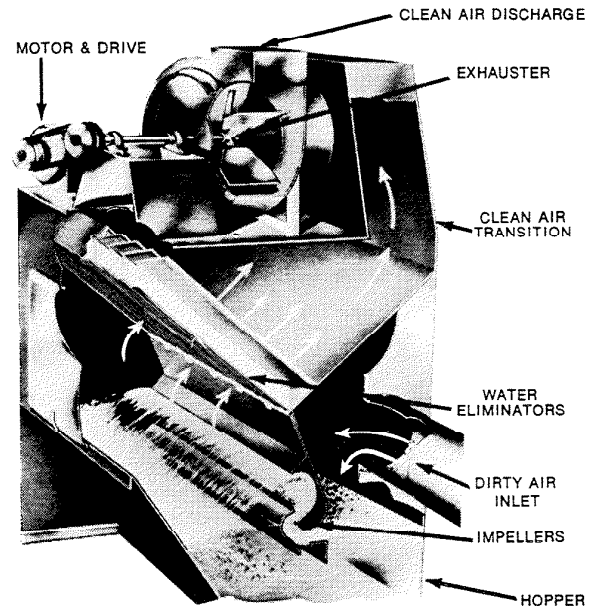

Fig. 2. Cutaway section of typical Type N RotoClone Design 2 and 3 Arrangement C size 1½ thru 6.
2. For Sizes 1½ thru 6, a pattern for proper orientation of eliminator sections is painted on the side of the RotoClone. For Sizes 8 thru 48, the entrainment baffles are fixed in place as an integral part of the unit and it is not necessary to make any adjustments (Figure 2).